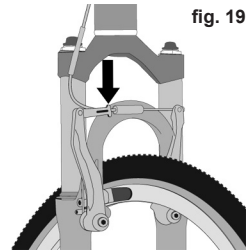

fig. 19
3. Some bicycle brakes, such as disc brakes (fig. 18) and linear-pull brakes (fig. 19), are extremely powerful. Take extra care in becoming familiar with these brakes and exercise particular care when using them.
Most rim brakes have some form of quick-release mechanism to allow the brake pads to clear the tire when a wheel is removed or reinstalled. When the brake quick-release is in the open position, the brakes are inoperative. Ask your authorized retailer to make sure that you understand the way the brake quick-release works on your e-bike (see figs. 19, 20, 21 & 22) and check each time to make sure both brakes work correctly before you get on the e-bike.